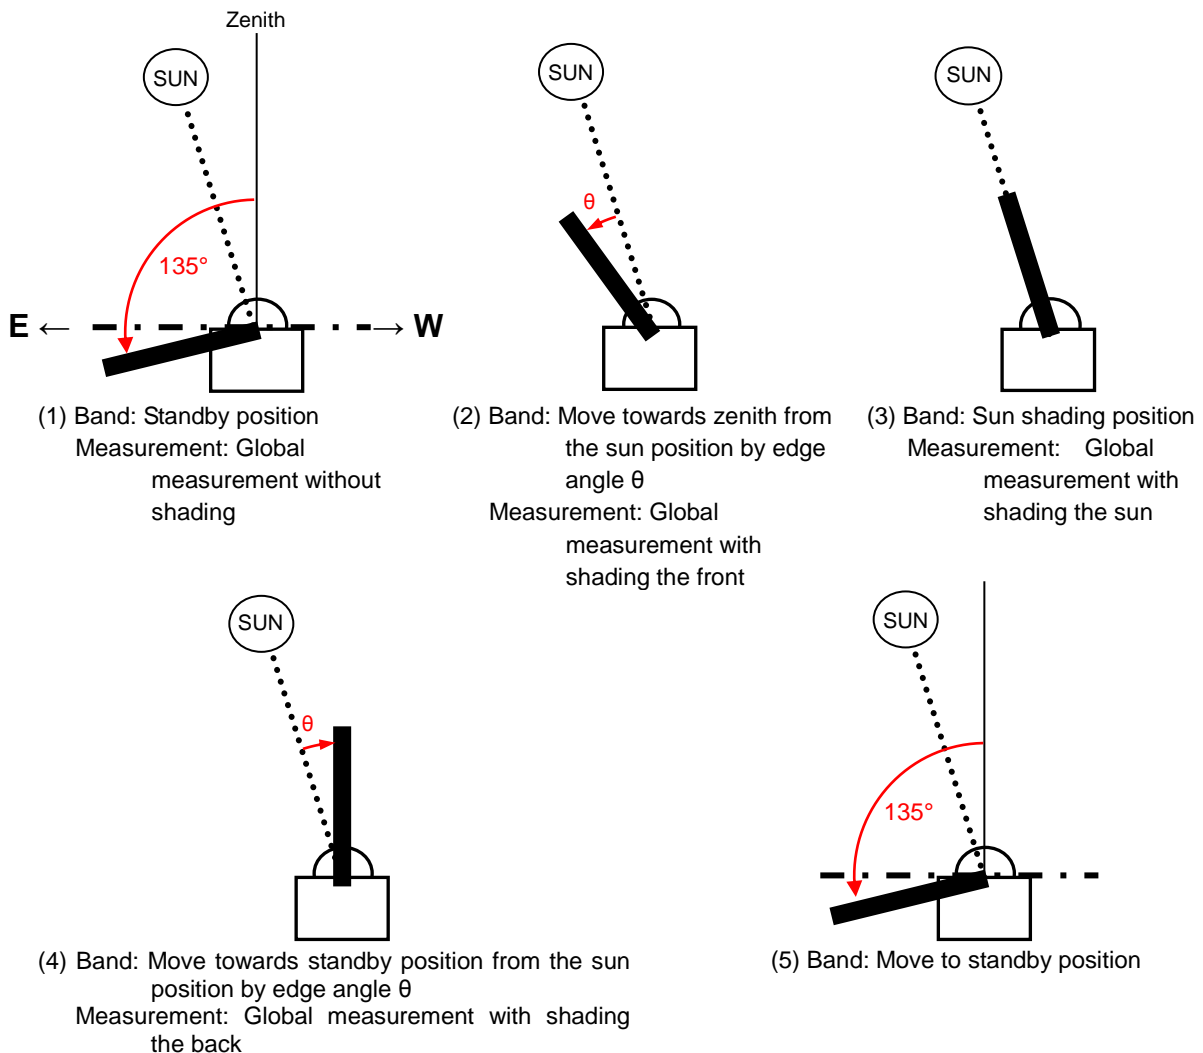

Figure 5-4-1. Operation Overview
Diffuse solar irradiance is measured when the direct solar radiation is blocked by moving the Shadow Band to the position where the sun disc is in the sky (see Figure 5-4-1, (3)). Part of the diffuse solar radiation component which is blocked by the Shadow Band can be estimated by adding to the measured DHI in (3) the average between the (2) and (4) minus the GHI measurement from (1) in Figure 5-4-1 which corresponds to the amount of diffuse solar radiation excessively blocked by the shadow band, see eq. 1.